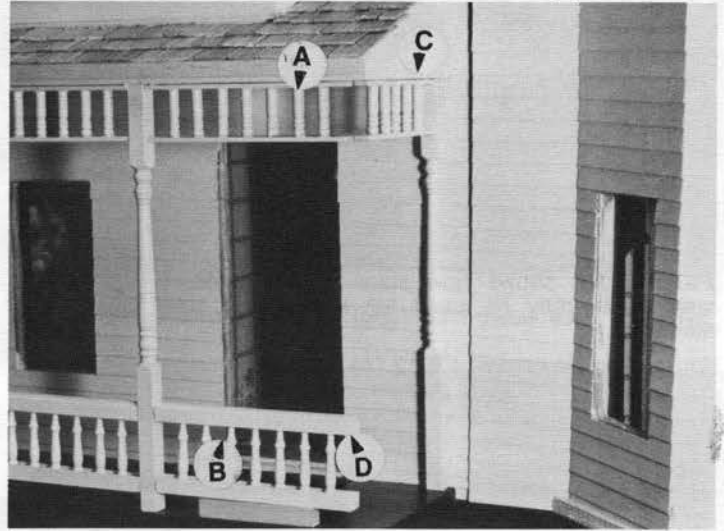
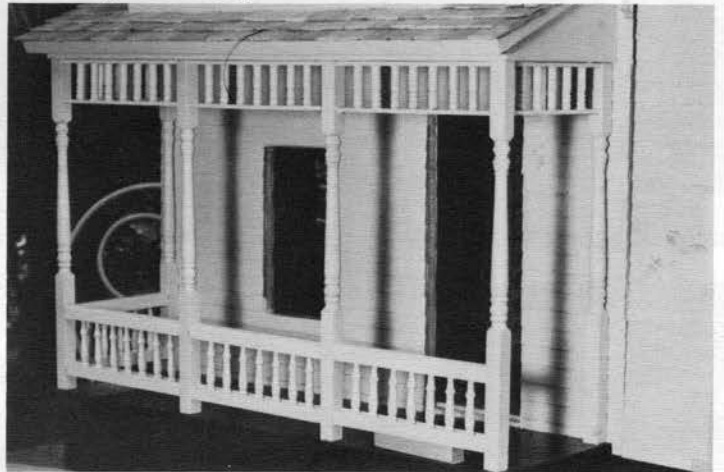

Fig. 17
Fig. 18
**(FIGURE 17:)** Continue to the next corner, installing assemblies (B), (A), and (C), leaving the proper space to glue in post (D), as shown in **(FIGURE 18)**.